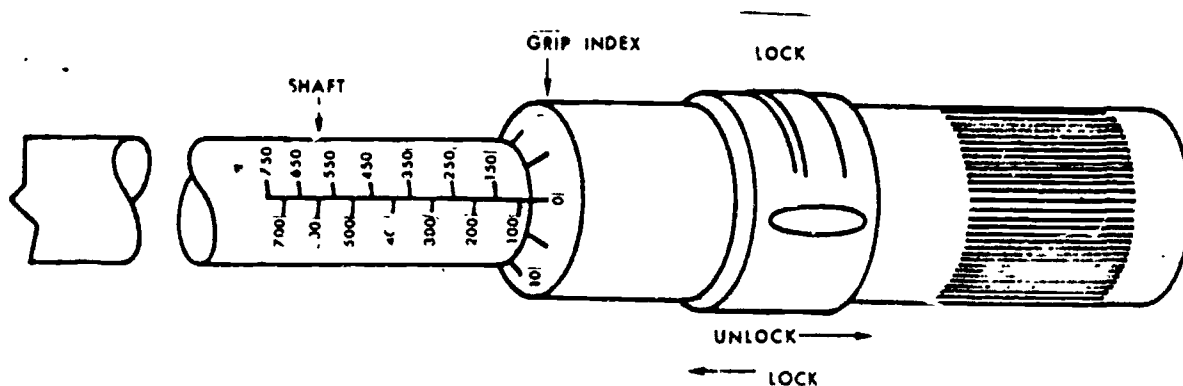

Figure 1.
6. Slide the locking ring forward (see figure 1) to lock the grip at exactly 200 inch pounds; this will prevent a change in the setting as you use the wrench. Note that it is impossible to lock the grip if the index lines are not exactly aligned with the line on the shaft; i.e., it will lock at 200 inch pounds and at 205 inch pounds, but not at 201, 202, 203, or 204 inch pounds.